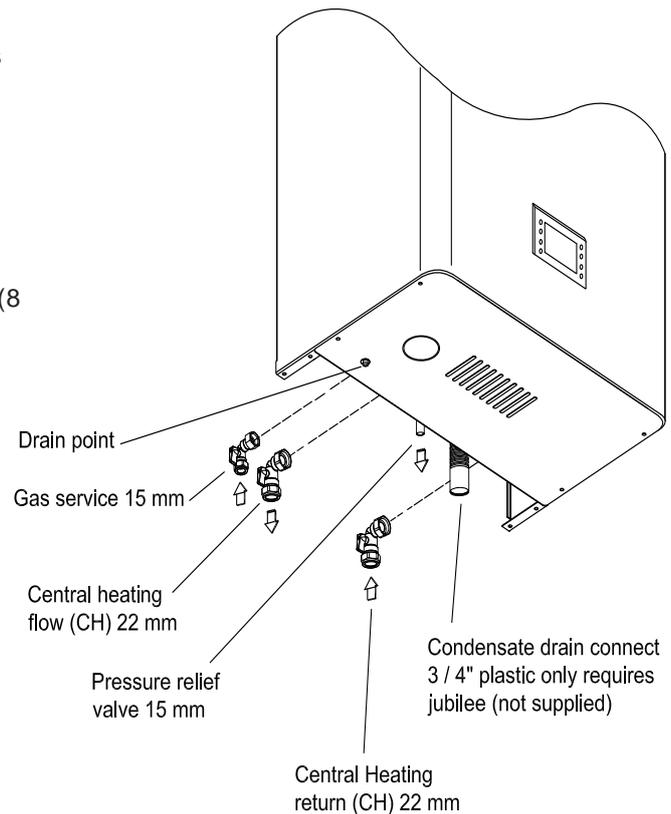

Fig.29
Remove plastic caps from boiler connection and fit valves as per fig. 29 using the washers provided.
5.21 GAS CONNECTION (Fig. 29)
5.22 CENTRAL HEATING CONNECTION (Fig. 29)
The condensate drain connection is a flexible 3/4" pipe and is therefore adjustable Fig. 29.